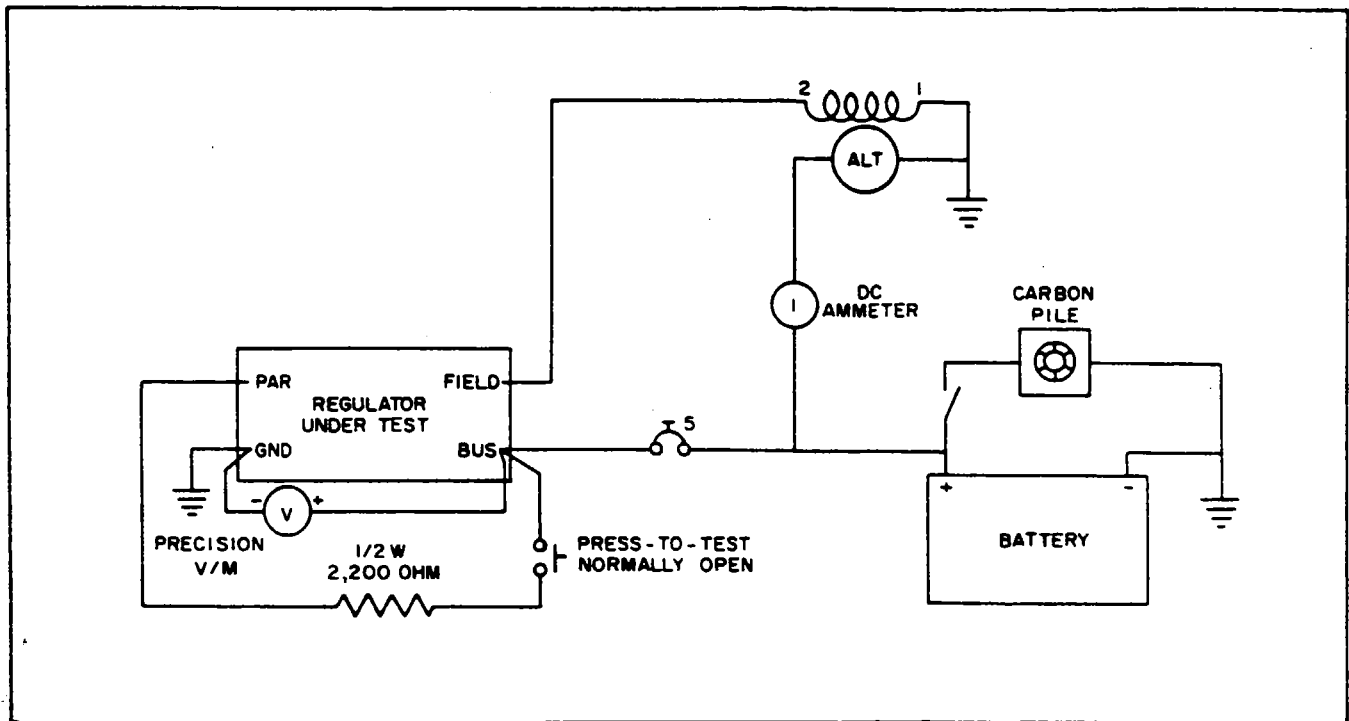

Figure 11-11. Testing Regulator
- a. The procedure for testing the regulator whether on the airplane or on the test bench remains the same. Connect the test meters and regulator wiring as shown in Figure 11-11.
- d. With the connections made as shown in Figure 11-11, start the engine and adjust its speed to approximately 920 to 1250 RPM to obtain 3,000 to 4,000 alternator RPM. Turn on accessories as needed to establish a 10 to 15 ampere load value. Note that the battery charge current is indicated by the ammeter. Therefore, the current value may change downward at the beginning of a test run. This will be especially true if the battery was used for engine starting.